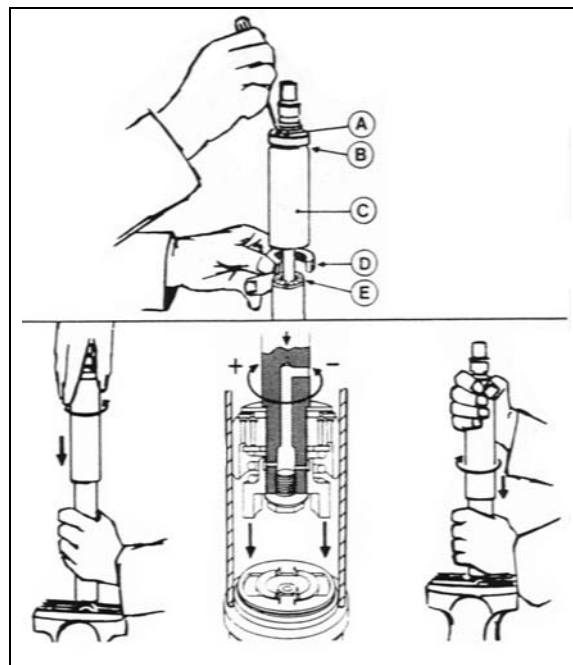

FIGURE 18: DAMPER
2. Fully close the damper while turning the dust cap or piston rod slowly CCW until it is felt that the cams of the adjusting nut engage in the recesses of the foot valve assembly (Fig. 18).
Note: In figure 18, if there is an indentation (B) in the dust cap (C) and the cover shows two holes (A), the damper is fitted with a bump rubber (D). If so, fully extend the damper and insert a round bar or screwdriver through the holes. Push the bump rubber down and remove. Remove the split plastic collar (E) (if fitted) from the piston rod.
Note: Where a bump rubber was installed, refit same inside the dust cap and by fully closing the damper, the rubber will seat again at top of the dust cap. Refit the split plastic collar E (Fig. 18)